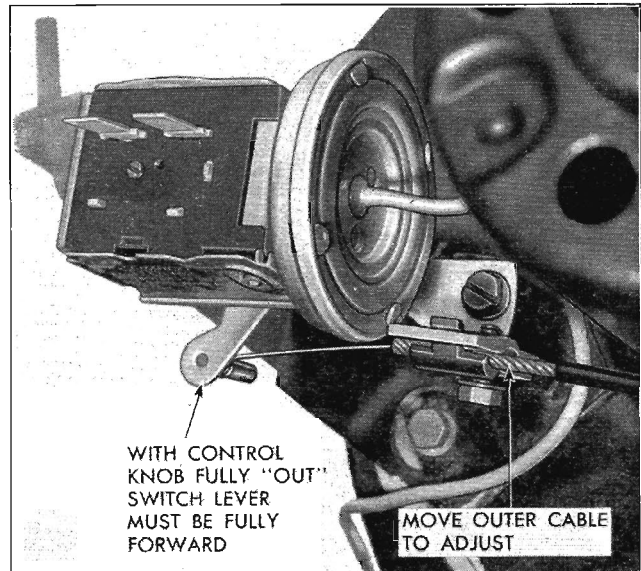

Fig. 4—Bowden Cable (Thermostatic Switch) Adjustment
1. Before attempting to adjust the thermostatic switch, check to be sure that the adjustment lever on the switch is in maximum COLD position (fully forward toward the front of the car) when the COLD control knob on the control panel is pulled fully out. Readjust the bowden cable, if necessary (Fig. 4). Then, if system still fails the performance test, proceed as follows:
Check for proper adjustment on bowden cable to thermostatic switch, see Fig. 4.